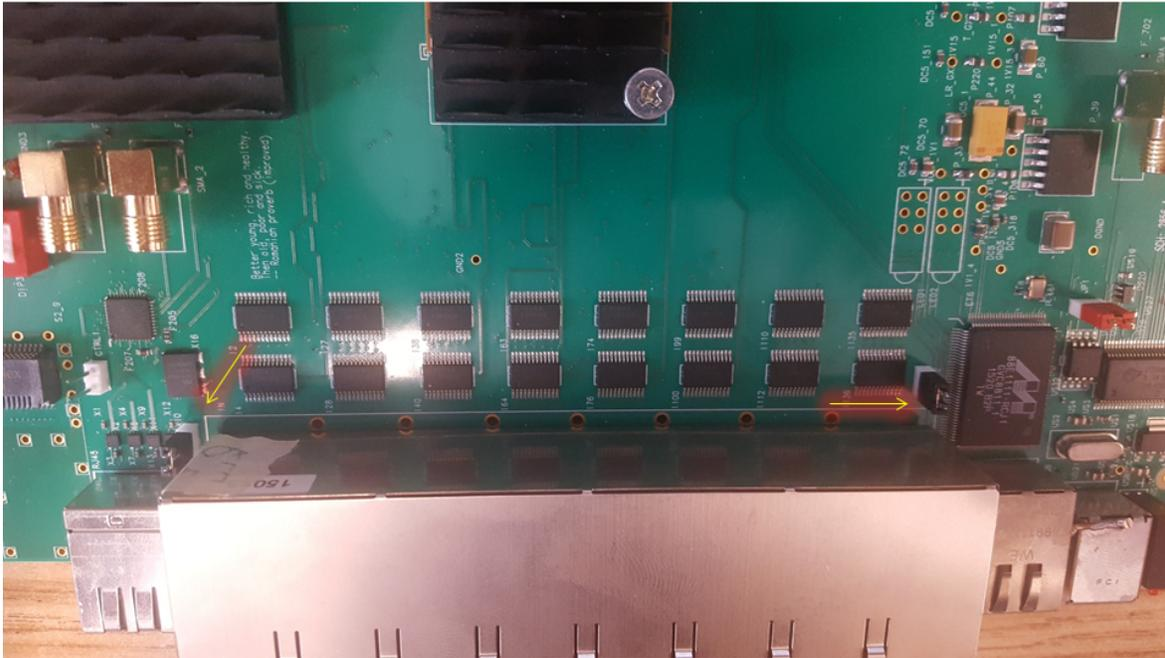

Figure 9: Attach jumpers to these pins on the sides of the RJ45 shield to get a connection with ground.
5. Depending on what you use this ACC board for (for instance, reading out ACDC boards), you may also want the RJ45 shield to be connected to ground. To connect this shield to ground, add jumpers to the pins as shown in figure 9.
2. If your ACC doesn't have jumpers like in Figure 9, put some on.